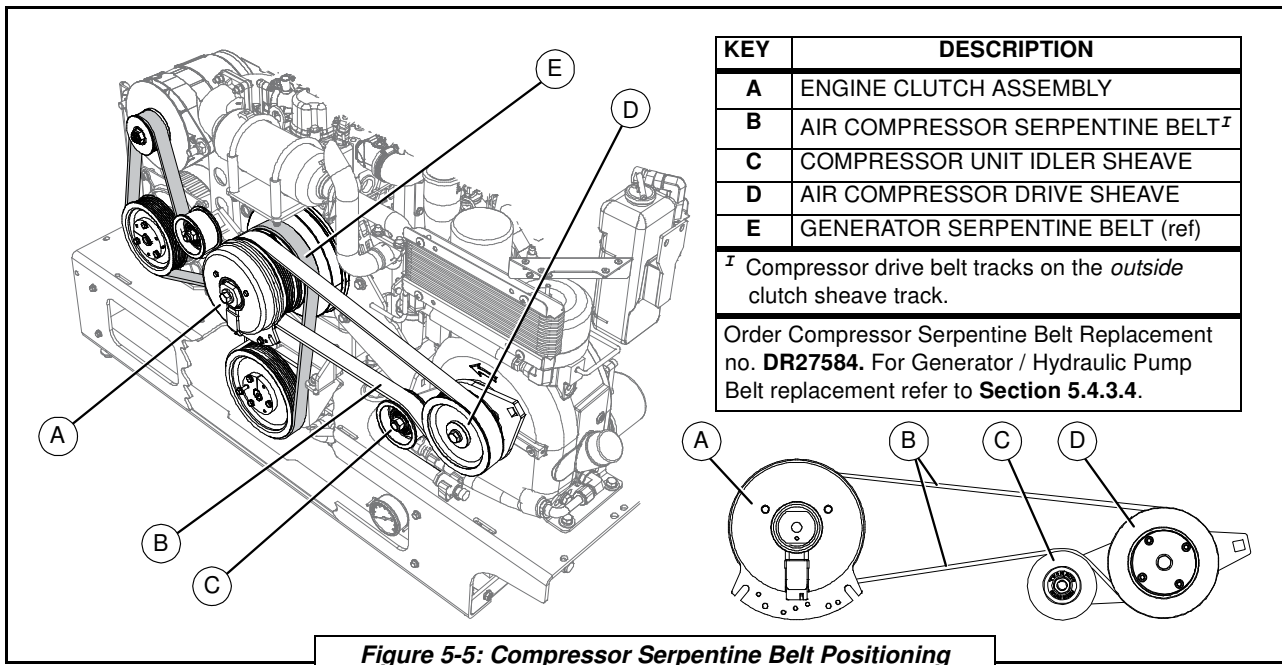

Figure 5-5: Compressor Serpentine Belt Positioning
- Position and route a new air compressor serpentine belt [B] onto the proper driver tracks as shown in **Figure 5-5**, making sure that it goes on the *outside* driver of the double sheave track of the engine clutch assembly, closest to the face plate of the clutch. Also note that the textured side of the drive belt goes on the inside of the belt for traction with the drive pulleys.